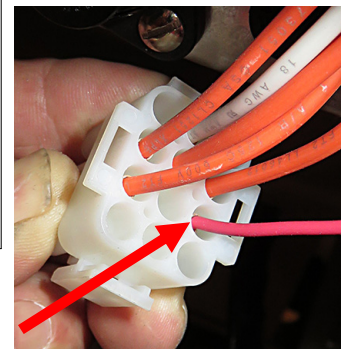
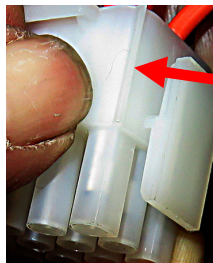

Figure 16
Figure 17
18. Insert the red wire into the J1 plug pin 7 (see Figure 16). (**Note** – Pin 1 is indicated by the ridge in the corner (see Figure 17 and 18)).